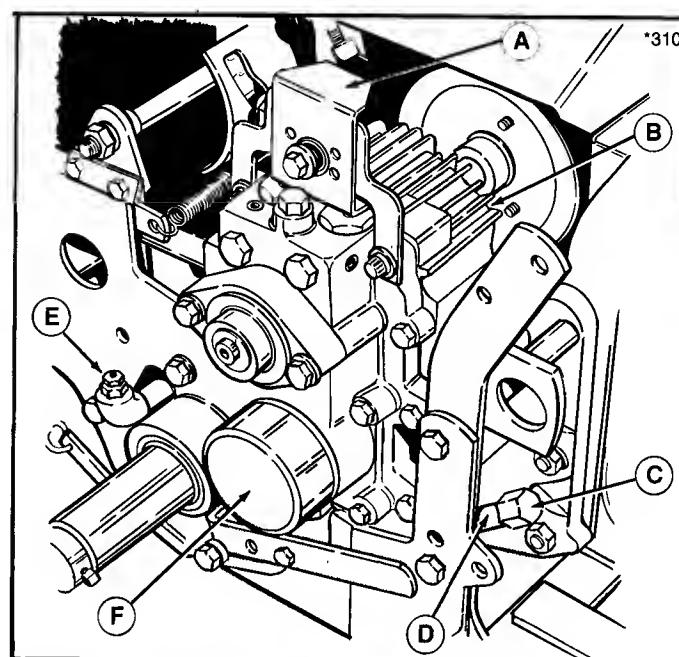
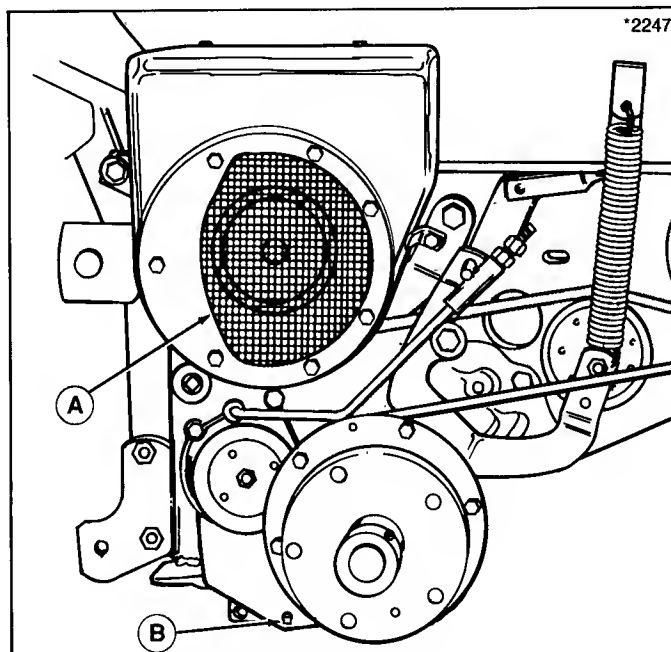

Figure 12. Hydrostatic Transmission
Figure 13. Hydrostatic Transmission
The filter is shown in figure 12. Replace the filter every 400 hours of operation or whenever changing transmission fluid. Transmission fluid should be changed only when performing repair work on transmission or hydrostatic unit or if it becomes discolored from overheating.
1. With hydrostatic transmission fluid hot, park tractor on level ground, place hydrostatic control lever in neutral, place PTO lever in the disengaged position, engage parking brake, and stop engine. Press transmission release lever (A, figure 12) down firmly to disengage the hydrostatic pump.
2. Remove hydrostatic transmission drain plug (B, figure 13) from lower right hand side. Remove dirt from around the fill cap (C, figure 12) and loosen cap to permit air to enter transmission.
5. Remove the fill cap (C, figure 12) and clean dirt away from the relief valve (E). Using a clean funnel, add Multi-Purpose Hydraulic/Transmission oil or Type F transmission fluid into the fill tube while holding the relief valve up until fill tube will accept no more fluid. Replace the fill tube hand tight.
Relief valve (E, figure 12) must be held fully up for the entire time that fluid is being added.